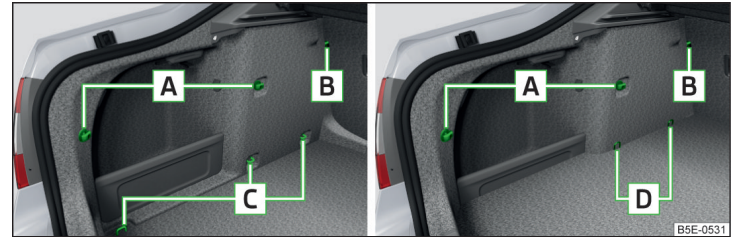
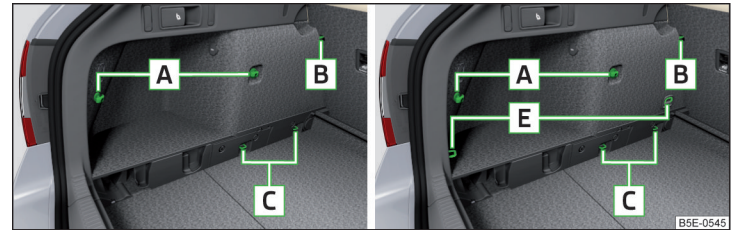

Fig. 97 Fastening elements: Variant 1/variant 2 (G-TEC)
Fig. 98 Fastening elements: Variant 3/variant 4
Overview of the fastening elements » Fig. 97 and » Fig. 98
If the vehicle is equipped with the variable loading floor and this is in the upper position, then the lashing eyes **E** » Fig. 98 on page 104 can be used for attaching the nets.
- For vehicles with lashing eyes **D** » Fig. 97 on page 104, only the following nets can be attached.
- Floor net, which can be attached to the rear fastening elements **A** » Fig. 97 on page 104 in the rear area.